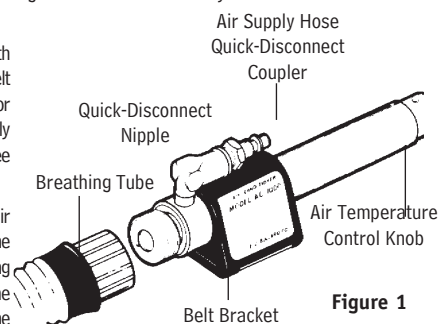

Figure 1
6. To obtain cooler air, turn the air temperature control knob counterclockwise (**Figure 1**).